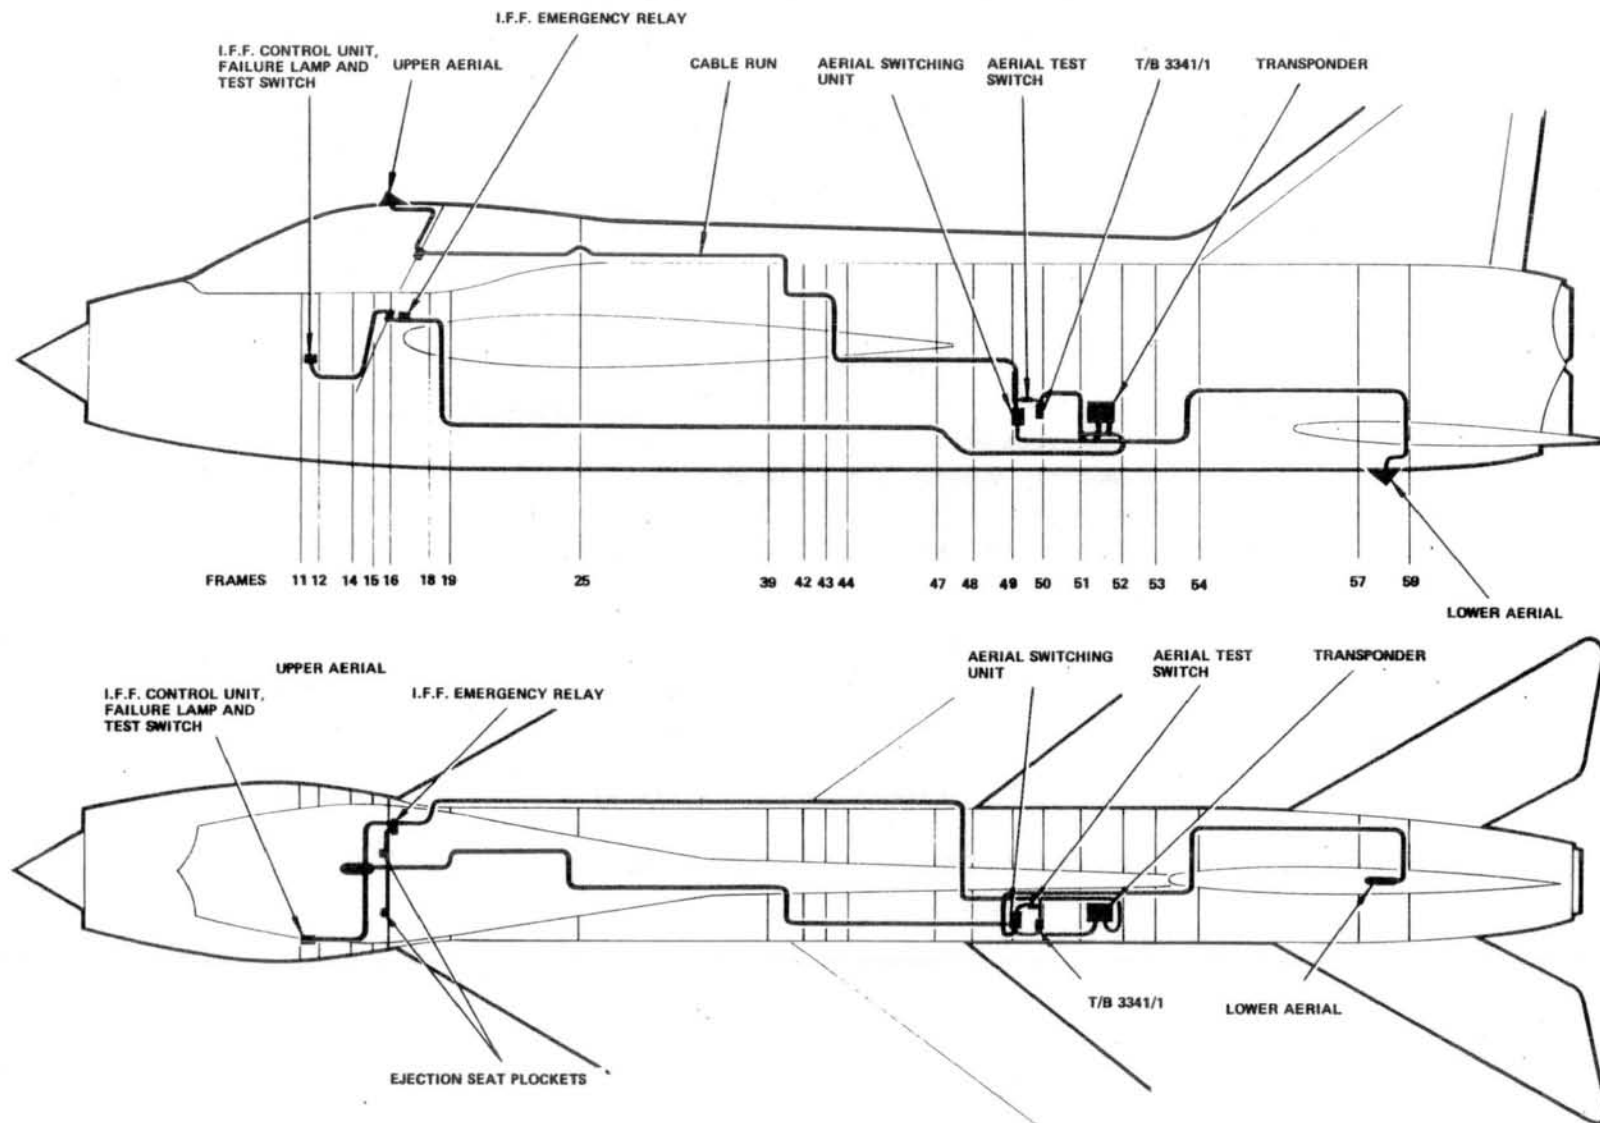
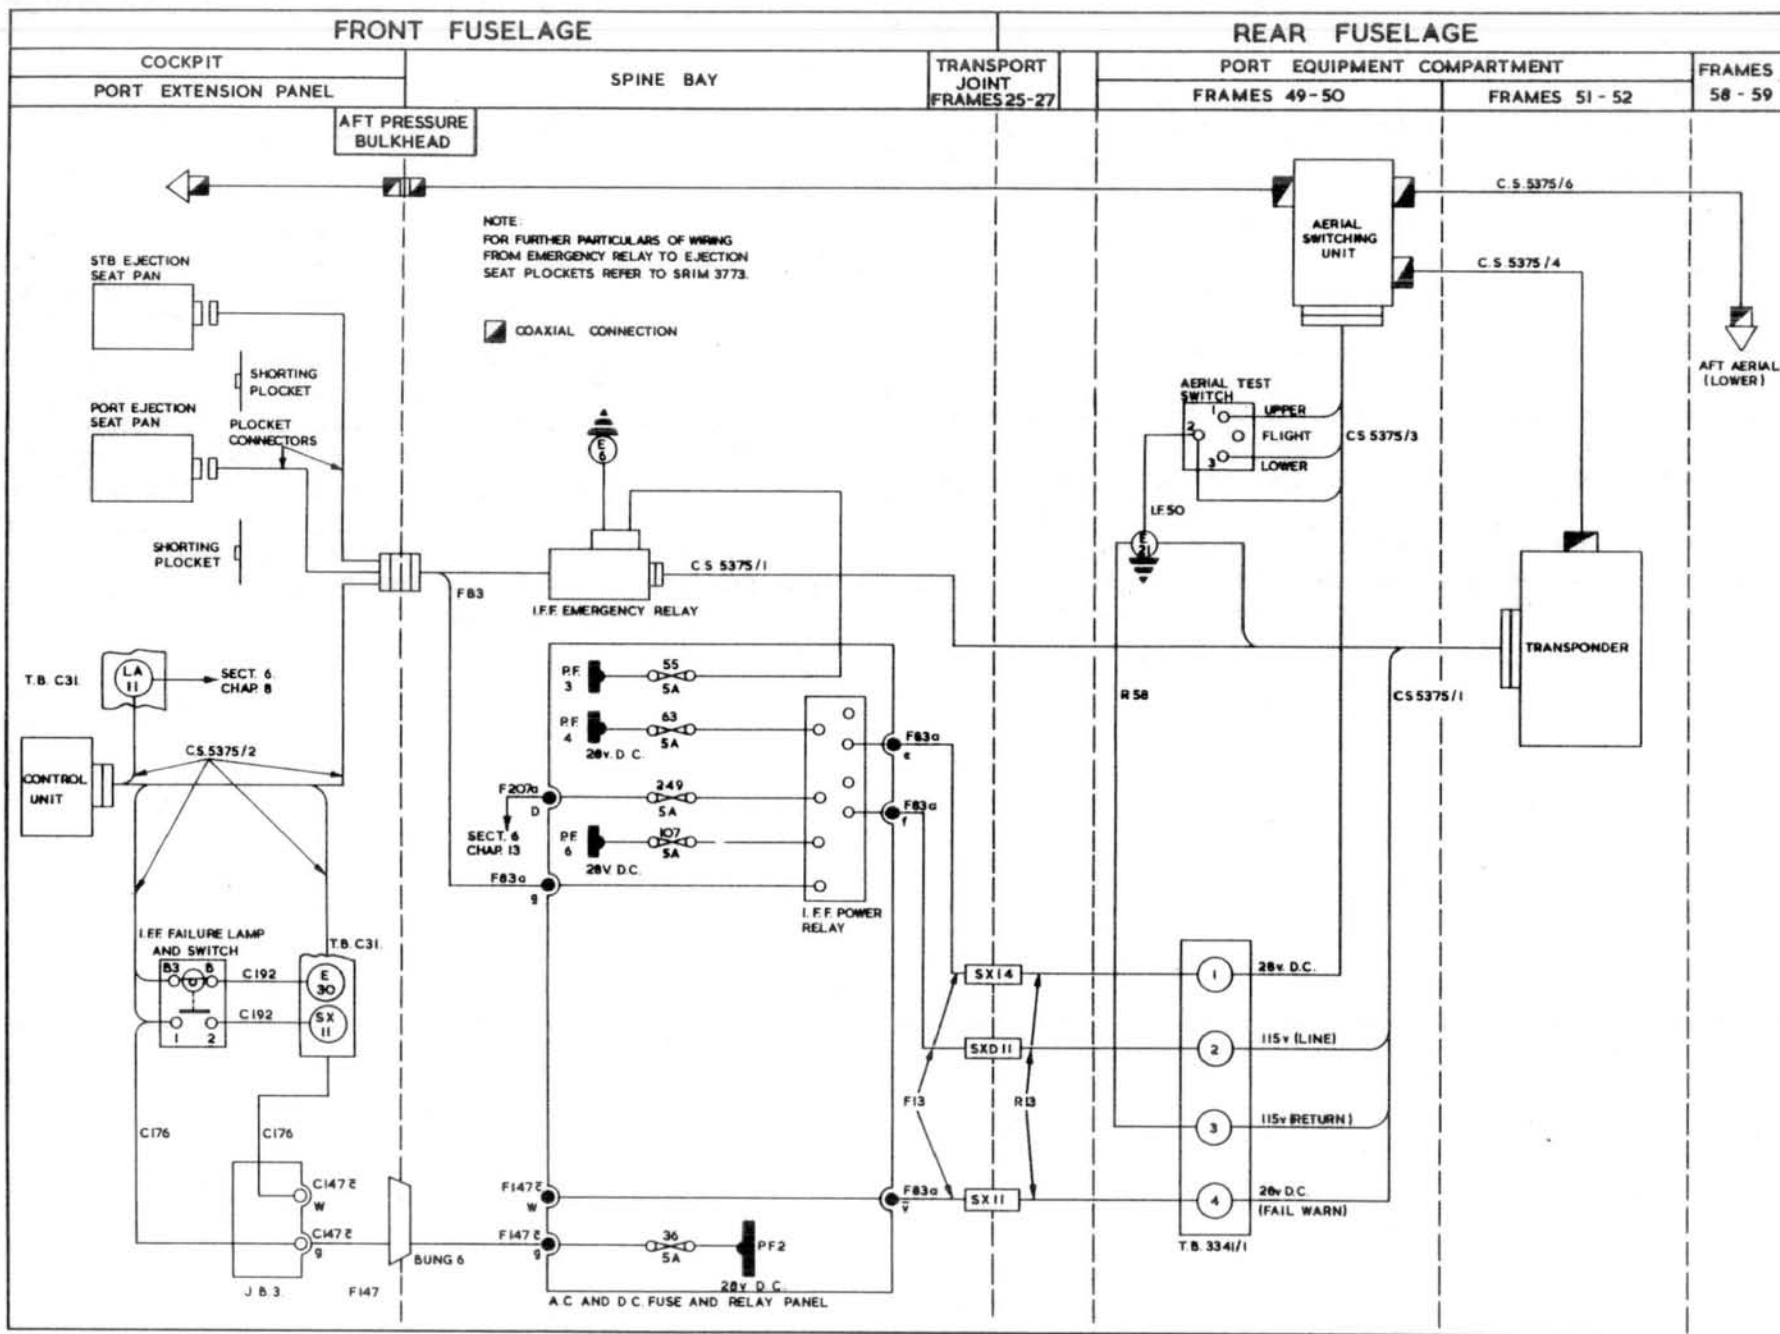

FIG. 1. I. F. F./S. S. R. 1520 INSTALLATION (A. R. I. 23134/3)(POST MOD.4733)
FIG. 2 I.F.F./S.S.R. 1520 INSTALLATION (A.R.I. 23134/3)(POST MOD.4733)
2. An emergency relay unit and interconnecting box is fitted to the aft face on the starboard side of the pressure bulkhead and a shorting plocket assembly is fitted to the lower rear left-hand corner of each ejection seat. A stowage shorting plocket assembly is fitted on the port floor panel for the port seat plocket, and on the aft panel between the ejections seats or the starboard seat plocket, for use when the seats are removed. Fig.1 gives the locations of the main units, fig.2 gives the interconnection details of the modified system. Table 3 lists the alterations to the system